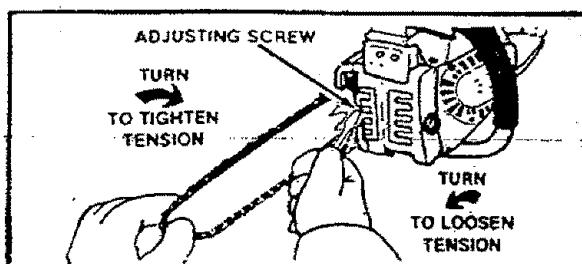

Figure 10
1. Turn the adjusting screw counterclockwise ← to move the adjusting pin almost as far as it will go to the rear. Figure 10.
7. Turn the adjusting screw clockwise → until the chain is snug in the guide bar groove. Figure 10.
1. Hold the tip of the guide bar up and turn the adjusting screw just until the chain does not sag beneath the guide bar. Figure 10.